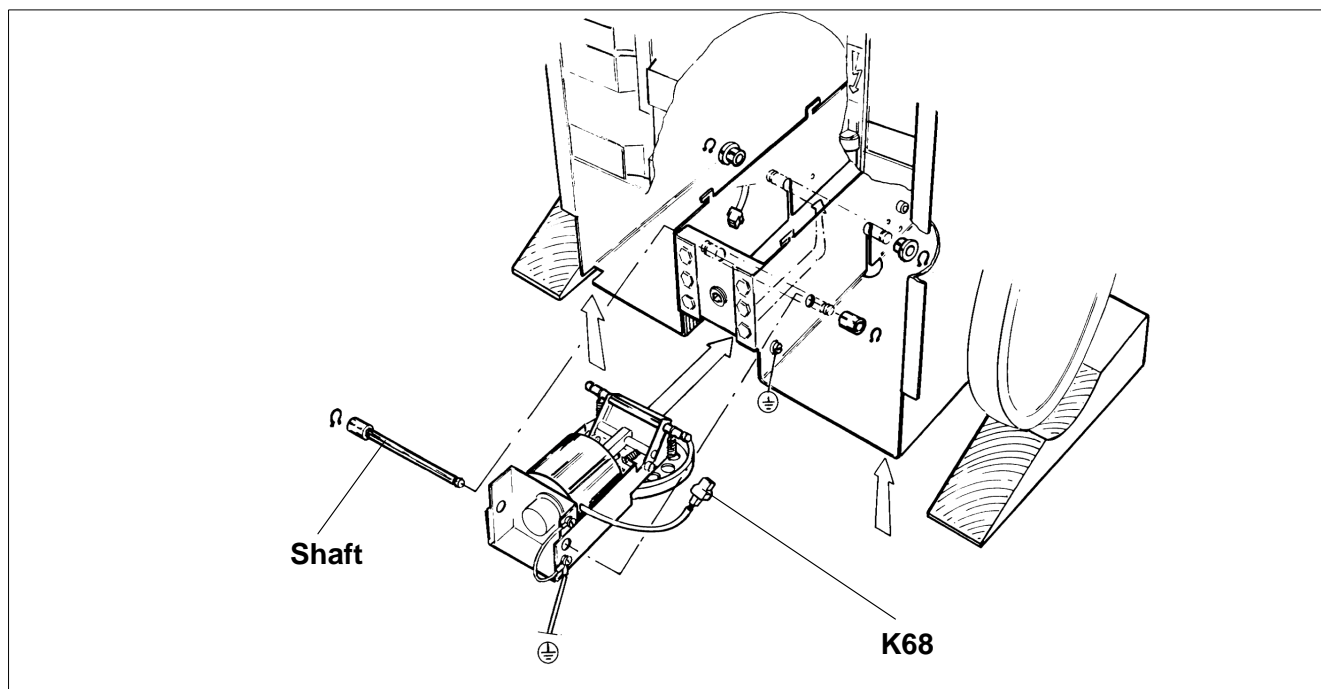

Fig. 11
- Disconnect all cables, ground connections and K68, according to (Fig. 11).